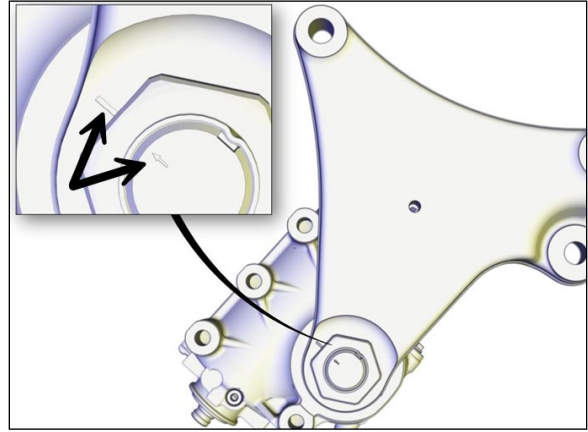

FIGURE 37: MARKINGS ON T-ARM AND STEERING GEAR SECTOR SHAFT SHOWING POSITION WHEN DRIVING STRAIGHT AHEAD MUST BE COINCIDING
3. Afterwards, the T-arm should be installed with steering gear sector shaft and T-arm reference marks aligned (Figure 37).
The marking on the T-arm casting is a reference for the straight-ahead driving position and must be in line (coinciding) with the marking on the steering gear sector shaft (Figure 37).